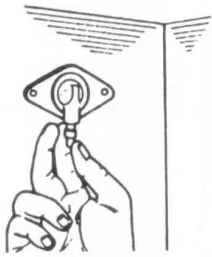

Figure 13
12. Remove plug in water inlet tube to allow water tube to be inserted (see Figure 13). Cut water line to length if required. Push water tube firmly into water inlet, tube should be a friction fit. If tubing is not snug a new inlet tube is provided.